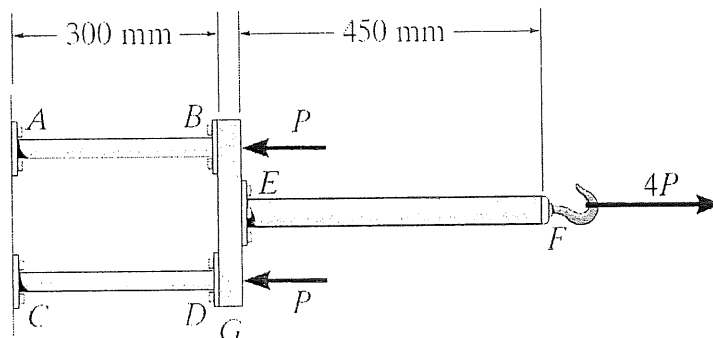

Figure 1
- a) The assembly consist of two 10 mm diameter brass rods AB and CD ( $E_{\text{brass}}=193$  GPa), a 15 mm diameter stainless steel rod EF ( $E_{\text{s. steel}}=101$  GPa) and a rigid bar G as shown in Figure 1. **Find**